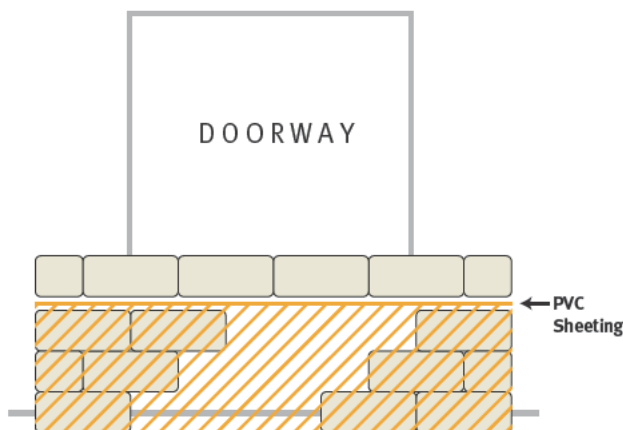

Figure 2: Header course (viewed from above)
- There are two ways of laying sandbags – Headers (Figure 2) and Stretchers (Figure 3). Headers should be used on first, third and fifth courses. Stretchers are used on second, fourth and sixth courses.